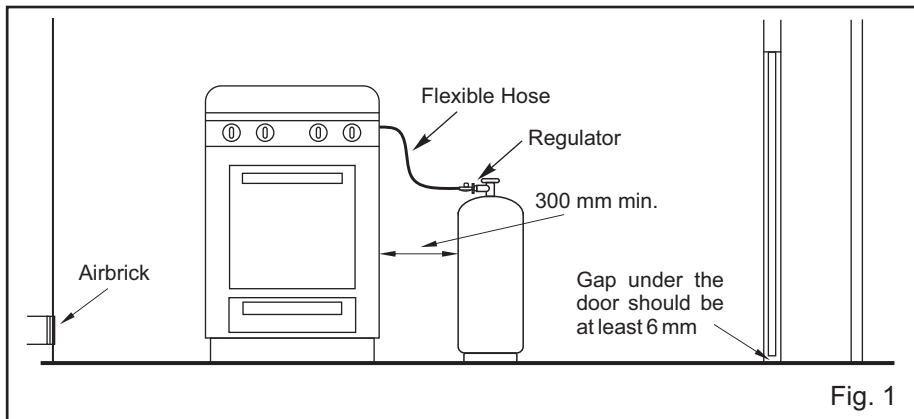

Fig. 1
- These appliances are fitted with a flame failure device on the cooker burners and therefore may be connected to a fixed pipework system. The stove may also be used when connected to a gas cylinder that is placed adjacent to the stove but not closer than 300 mm to the stove, and is connected to the regulator outlet by means of a flexible hose. See Fig 1.